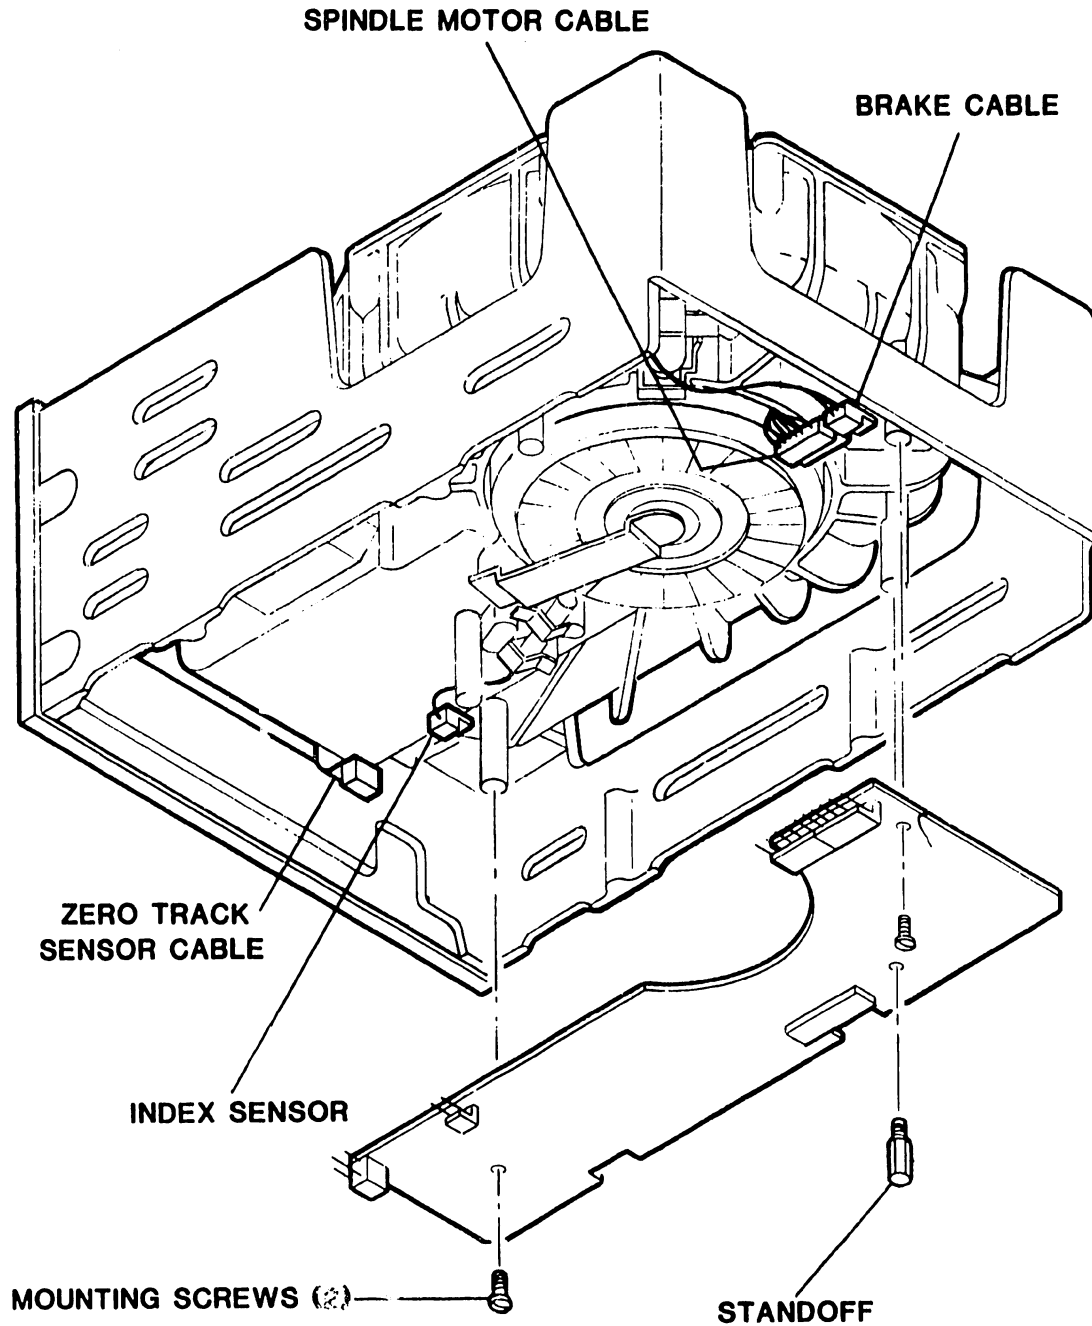

Figure 6-3. Motor control Board Removal and Replacement
6.3.3 Motor Control Board Removal and Replacement (Figure 6-3)